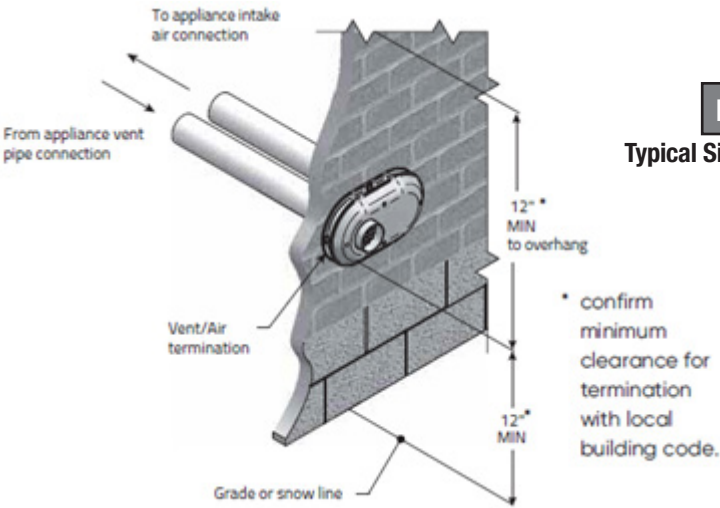

Fig. 10
When locating the penetration of the vent and air pipe, ensure the termination is properly oriented as shown in Figure 11 and ensure that it maintains minimum clearance requirements as shown in Figure 10. For multiple vent terminations, ensure that a minimum clearance of 12 in (30 cm) is maintained between edge of air inlet and adjacent vent outlet and that all vent pipes and air inlets terminate at the same height to avoid the recirculation of flue gases and the possibility of causing severe personal injury, death, or substantial property damage (see Figure 11).
2. Slide both the intake and vent pipe through the holes. Solvent weld both pipes to the base of the vent termination kit (see Figure 10).